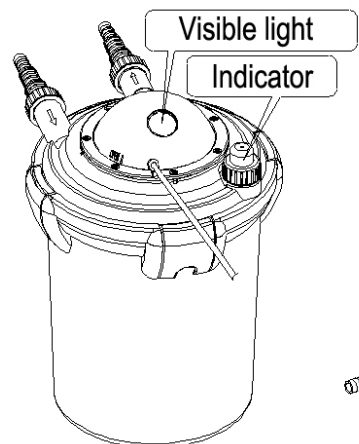

Figure 3
3. The correct functioning of the UV-C bulb is indicated by the lighting visible on the top of the outer lid. (See figure 3)
1. Your filter is designed to let you know when filtration performance declines. Your filter is equipped with a color-coded pressure indicator located on the container lid. When your filter is operating effectively, the pressure indicator will display green. If flow rate within your filter drops, performance also declines and the pressure indicator will display RED. (See figure 3)